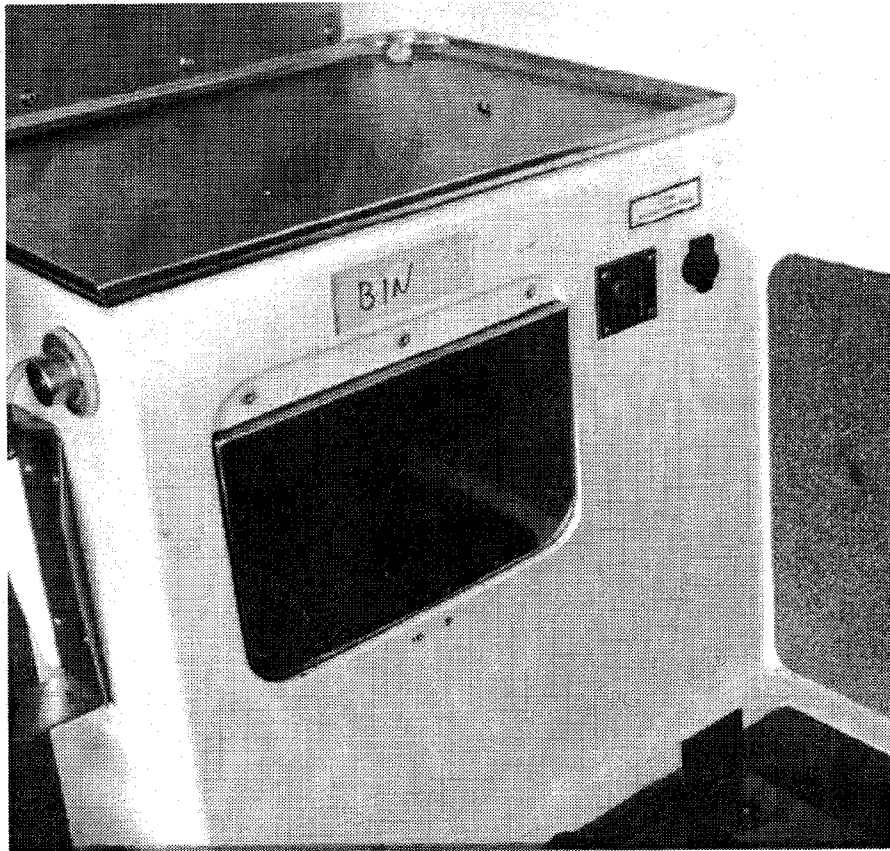

Figure 4 - Completed 12 Volt Auxiliary Power Outlet
- m. Using 5-minute Araldite, position label "12v" above and central to the 12 volt outlet, as per Fig 4.